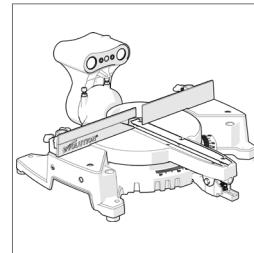

Fig. 1a
- The Base and Bevel Neck. (**Fig. 1a**)